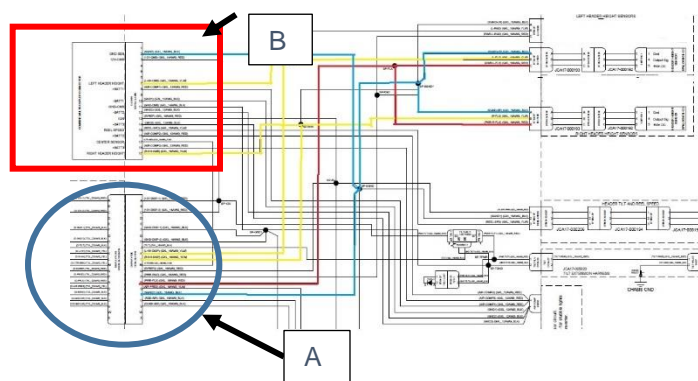
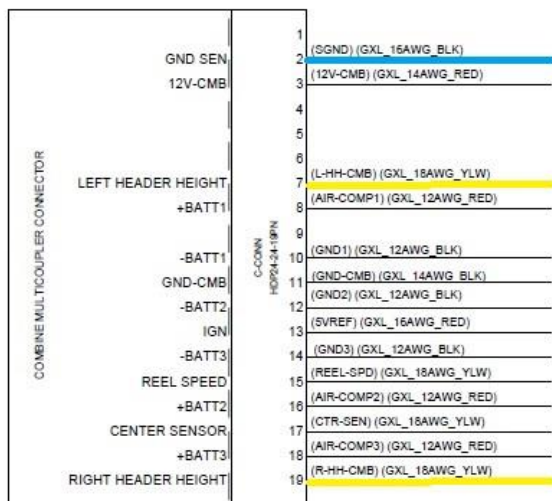

Figure 173
Figure 174
8. The wires can be traced through the main wire harness as shown in Figure 173
10. Section B Figure 173 and Figure 174 show a closer view of the pins in the 31 pin connector that is attached to the combine harness at the Multi-Coupler